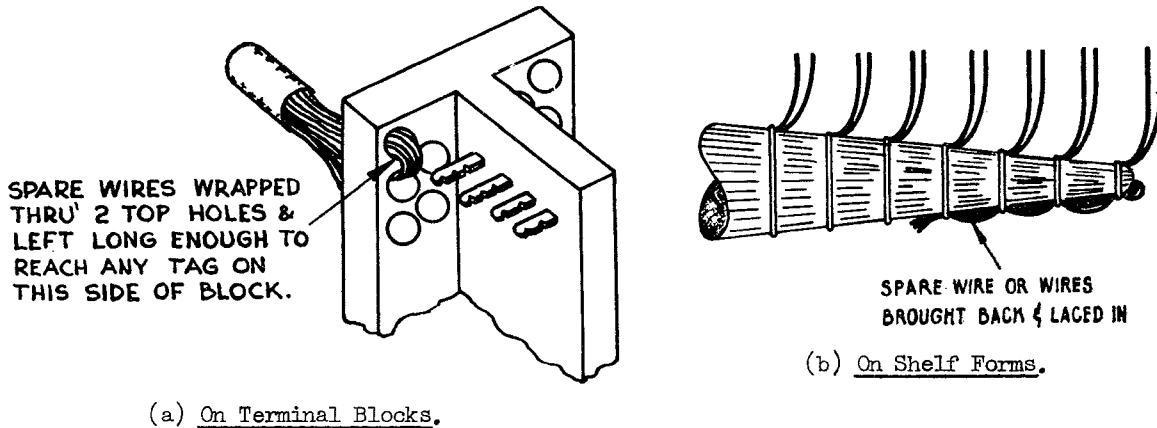

FIG. 2. POSITIONING SPARE WIRES.
2.5 Spare wires must be positioned as shown in Fig. 2.